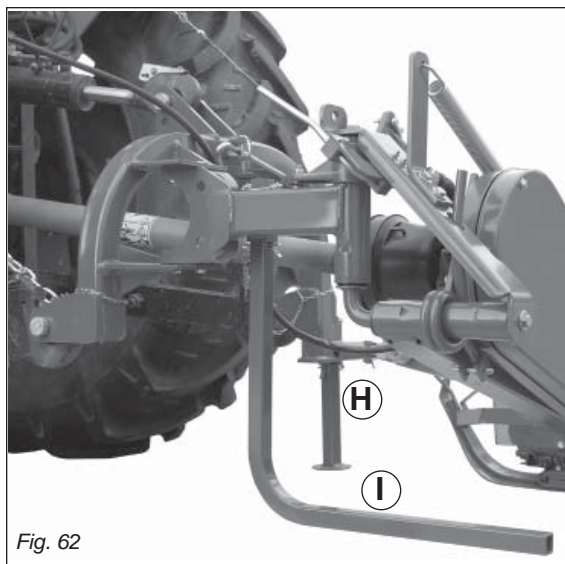

Fig. 62
- Lastly, store the implement in a dry place where it cannot be tampered with by unauthorized persons; the mowing machine must be set-up on flat and compact ground, supported by the relative supports (H and I, Fig. 62).